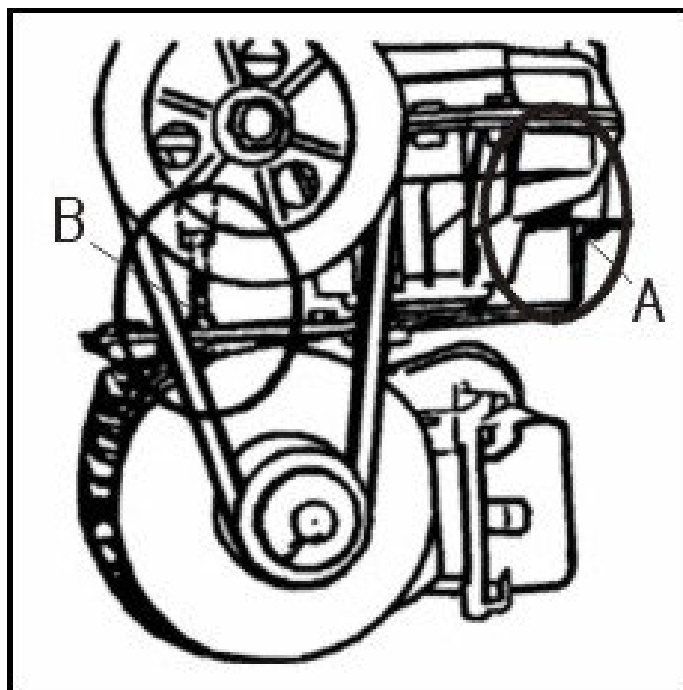

Fig 9
- \*Check and adjust the tension of the driving belt. (Fig.9)